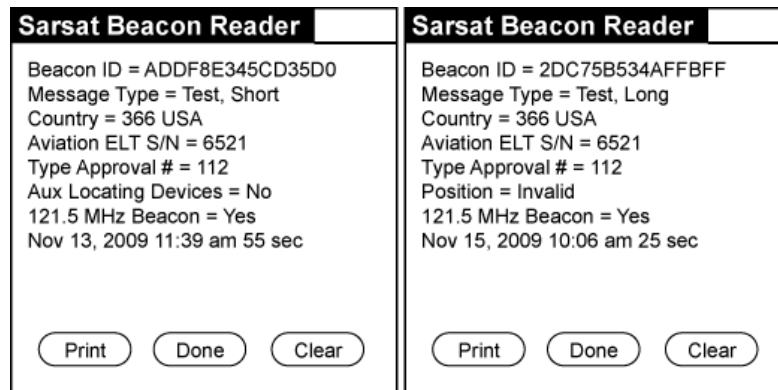

Figure 10 Short and Long 406 MHz Message Examples
b) The left hand example in Figure 10 is an ELT programmed for "User Protocol ELT with Serial Number", with a test Hex ID. The right hand example is an ELT programmed for "Standard Location Protocol ELT with Serial Number".
d) If the ELT is programmed with a location (long message) protocol and disconnected from the ELT/NAV Interface, the message will indicate "Position Invalid" in lieu of position data, as shown in the right hand example in Figure 10.